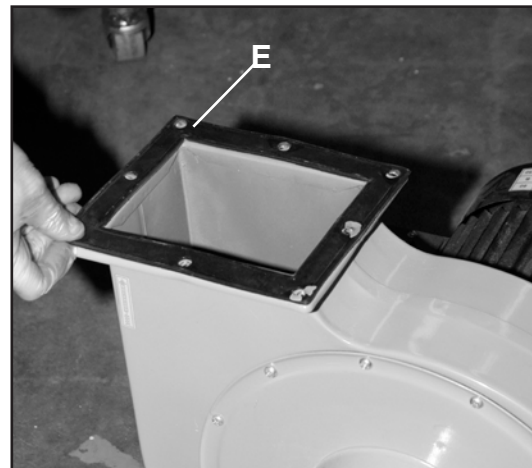

Fig. 3
Next, mount the blower housing gasket (I) and blower housing outlet connector (A) to the motor blower assembly as shown in Fig. 3 and Fig. 4.